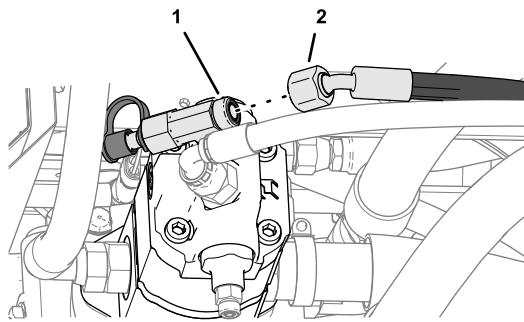

**Figure 133**
1. Remove the O-ring in the face of the T-fitting at the end the hydraulic pump (Figure 133).
2. Install a new O-ring 12.4/1.8 mm (0.489/0.070 inch) into the groove of the T-fitting (Figure 133).